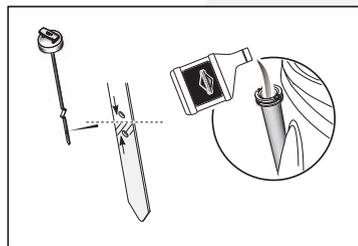

Fig. 12
- Make sure that the oil level is around the middle of the FULL mark on the dipstick. (Fig. 12).
- If the oil level is LOW, add oil into the oil fill tube. (Fig. 12)